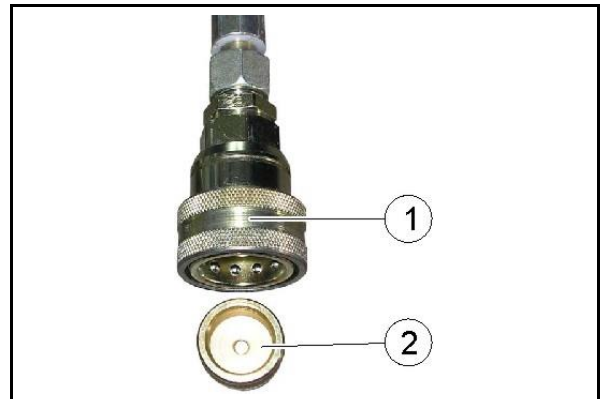

Fig. 48
3. Uncouple the hydraulic sleeve (Fig. 48/1).
4. Slip the hydraulic sleeve onto the machine's blanked-off connecting piece (**Fig. 48/2**).